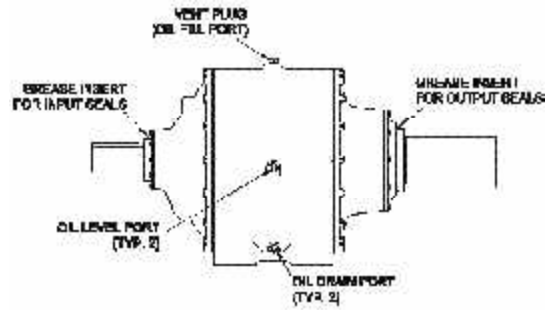

Figure 5.1—Reducer Oil Ports, Vent Plug, and Grease Insert Locations
3. Remove oil fill plug (vent plug) and one of the two oil level plugs; reference Figure 5.1.
2. Remove oil fill plug (vent plug) for ventilation; reference Figure 5.1.
1. Clean grease inserts, reference Figure 5.1 for location.